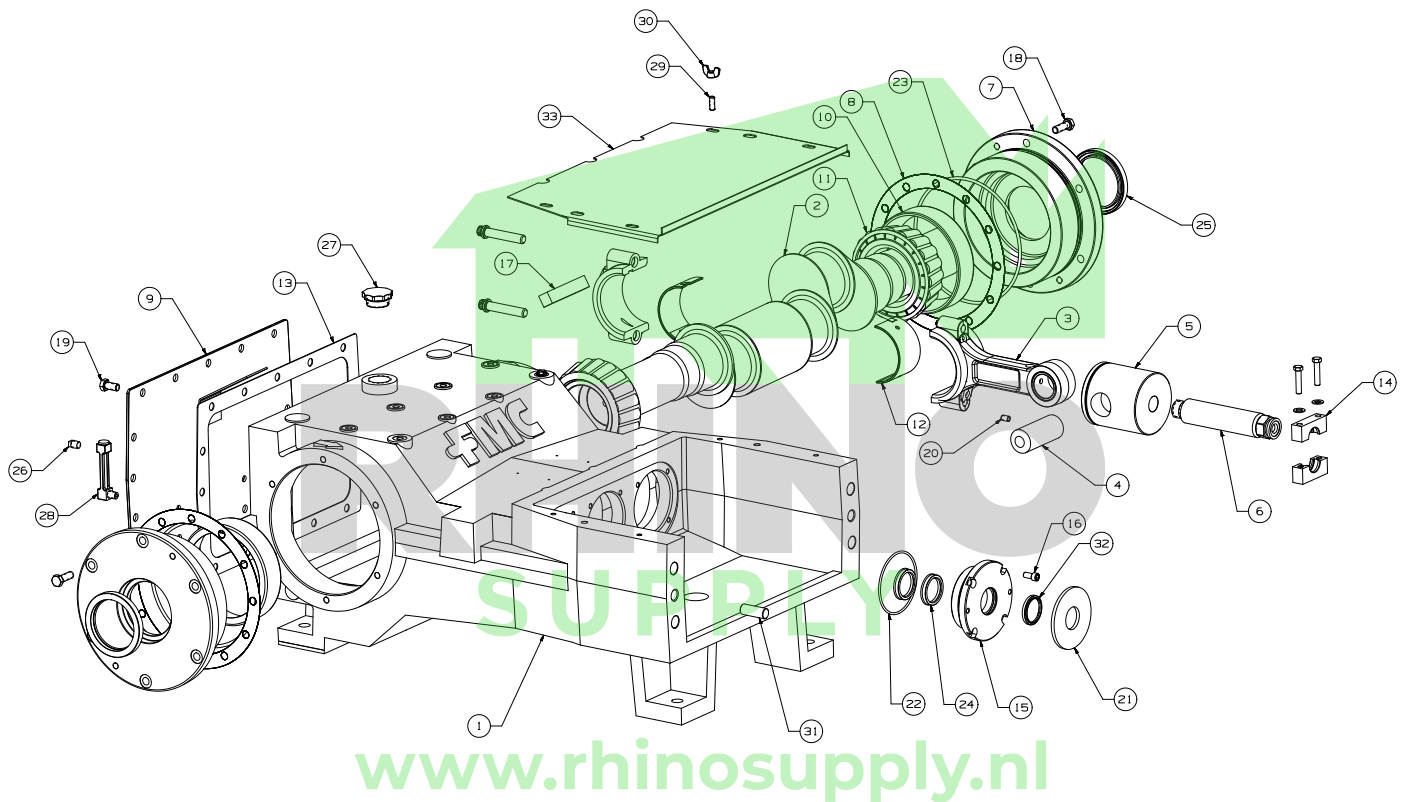
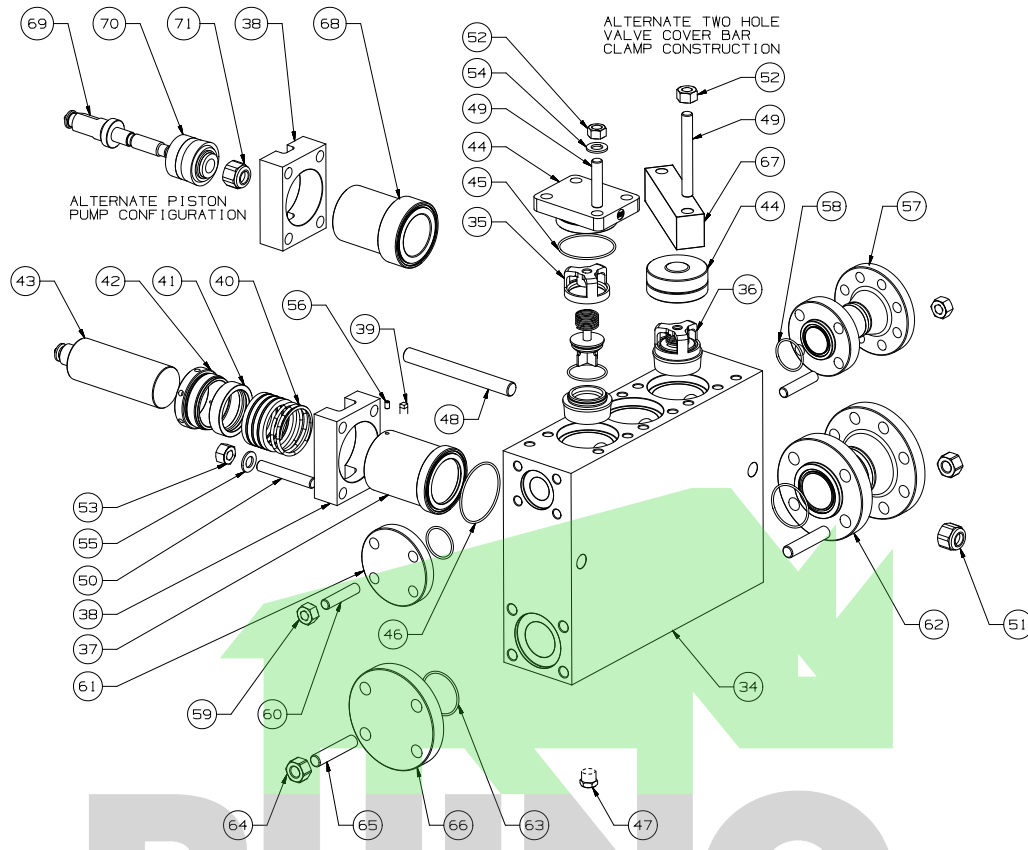
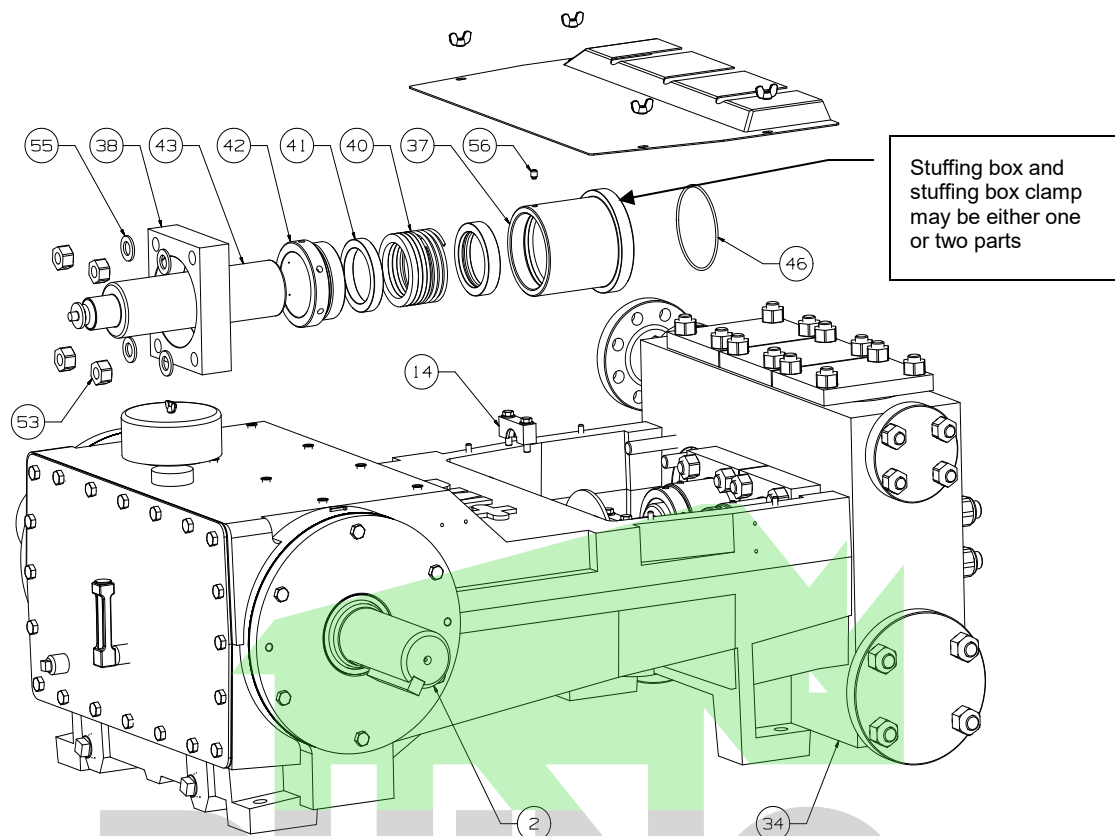

Figure 2: Power End Components
Figure 3: Fluid End Components
Figure 4: Plunger and Packing Removal
Refer to Figure 2 and Figure 3 for location of components.
2. Refer to Figure 3 or Figure 4 for location of components. Unbolt the plunger clamps (14) and remove them from the plungers (43) and plunger rods (6). Removal Tip: If the plunger does not separate from the plunger rod, place a wrench extension or rod between the plunger and the power frame. Rotate the crankshaft to move the plunger rod away from the plunger.
3. Loosen the set screw (56) locking the threads on the adjusting nut (42). Turn the adjusting nut counterclockwise to loosen. Use caution if the packing (40) is spring loaded. The adjusting nut may come off suddenly from the stuffing box due to spring force.
4. Remove the nuts (53) holding the stuffing box (37) or stuffing box clamps (38) to the fluid cylinder (34) to allow removal of the stuffing boxes from the fluid cylinder counterbore. Rotate the crankshaft (2) by hand until one of the plunger rods (6) is fully retracted from the plunger (43) and push the plunger forward into the stuffing box to provide adequate clearance for removal. Removal Tip: Backing the plunger rod away from the plunger and adding a short rod such as a wrench extension located between the plunger and plunger rod will push the plunger further into the stuffing box and fluid cylinder. It may be necessary to hit the stuffing boxes with a rubber mallet to free them from the fluid cylinder counterbores.
5. Slide the plunger and stuffing box out of the cradle of the pump as a single unit. Repeat this procedure for the other two plunger and stuffing box assemblies. Be careful not to lose the o-rings (46) that seal the stuffing box.